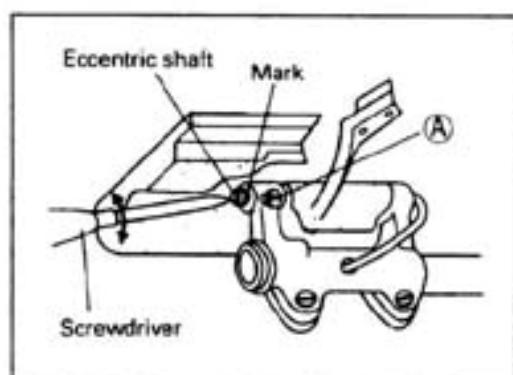

Fig.26
26. Adjustment of feed dog inclination (Fig.26):